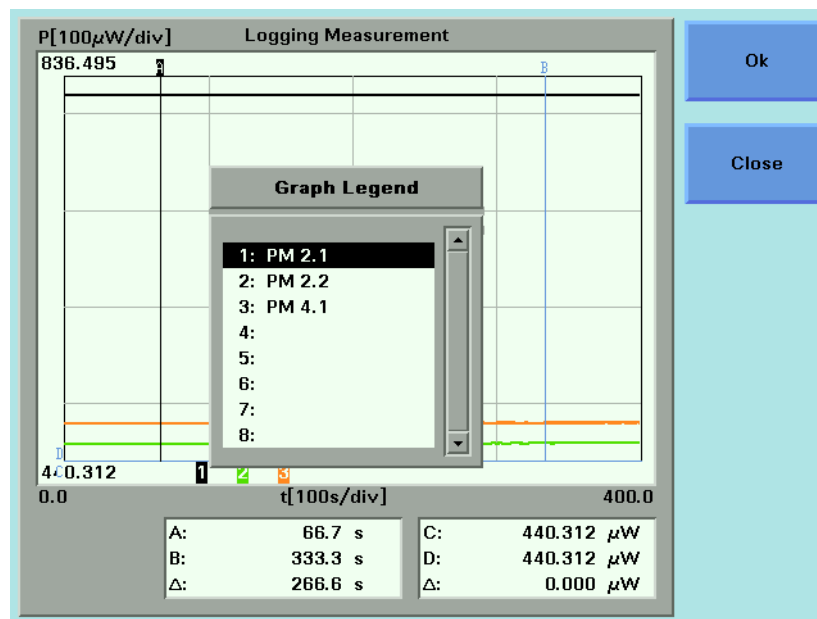

Figure 136 The Graph Legend Screen
- 1 Press the [Menu] softkey and move to *<Legend>*. A list of the Power Meter channels appears that is similar to Figure 136, where all the Power Meters are listed numerically with regard to legend number. All legend texts, if you have not previously edited the legend text, are of the "PM *x.y*", where *x* represents the slot number and *y* represents the channel number.